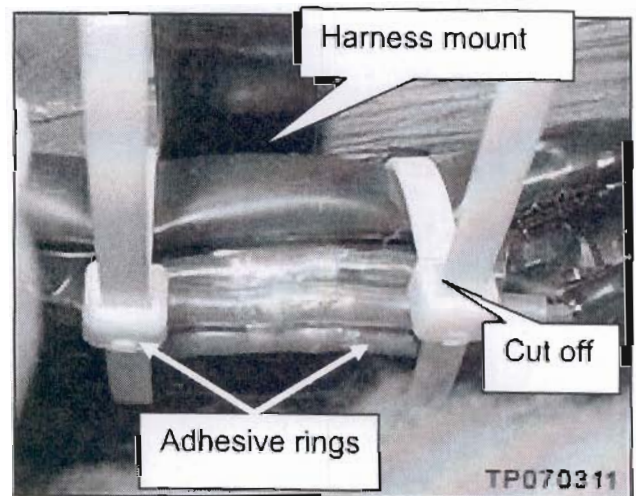

Figure 9
- The tie-wraps are secured at the adhesive rings of the solder sleeve connectors (see Figures 9 and 10).